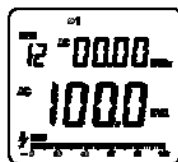

Figure 17
4. When measuring 3 phase 4 wires: (see figure 17, 18, 19)
- Press **SELECT** to choose the first phase $\varnothing 1$, see figure 17.